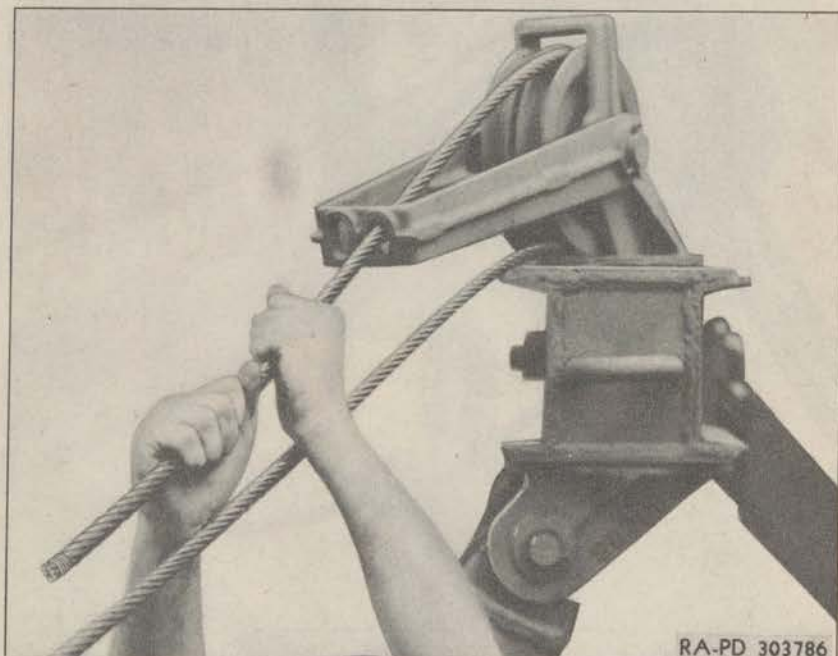

Figure 181—Installing Boom Cable Over Mast Sheave
(2) Run the other end of the cable back to the crane and install it over the inside mast sheave from the bottom and run it through the cable guide as it comes over the top of the sheave (fig. 181). Pull the